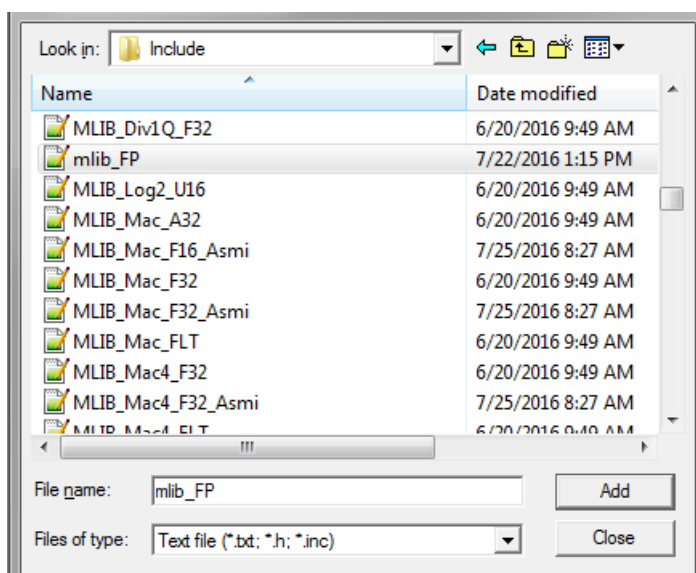

Figure 1-34. Adding .h files dialog
4. Navigate into the library installation folder C:\NXP\RTCESL\CM7F_RTCESL_4.5_KEIL\MLIB\Include, and select the *mllib_FP.h* file. If the file does not appear, set the Files of type filter to Text file. Click Add. See Figure 1-34.